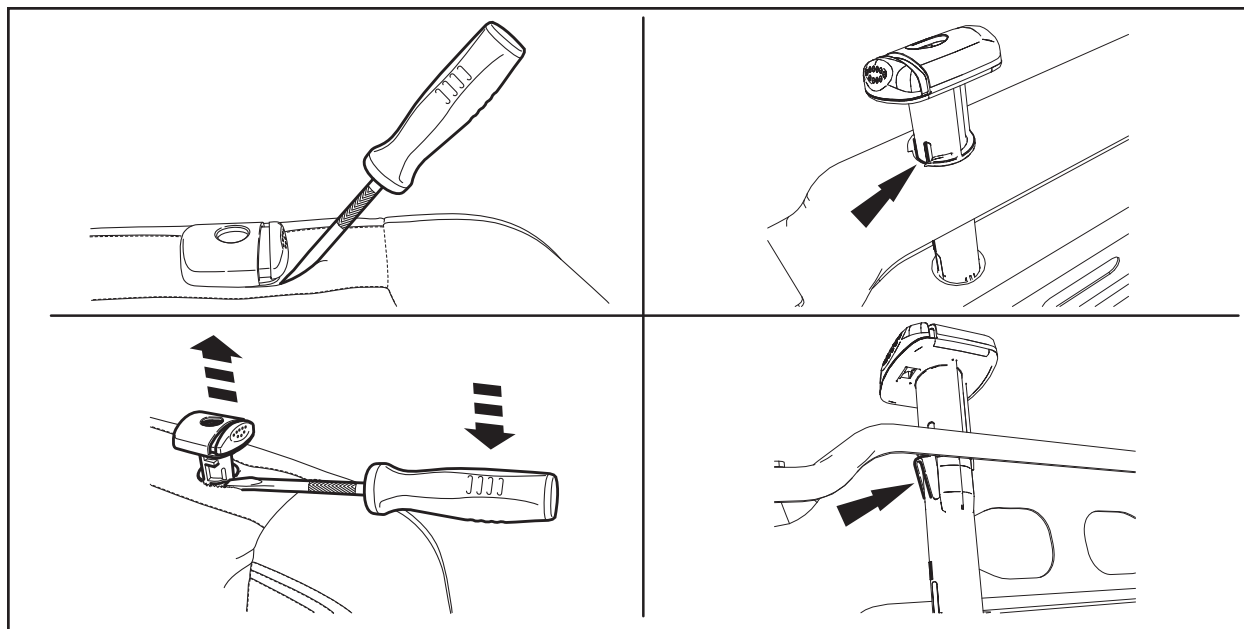

FIGURE 12
20. Remove and discard **both** of the head restraint guide sleeves by positioning a 3/16 in. (5 mm) flat-blade screwdriver at a 45° angle to the middle of the head restraint guide sleeve. Push inward and apply slight downward pressure to release the lock feature. See Figure 12.